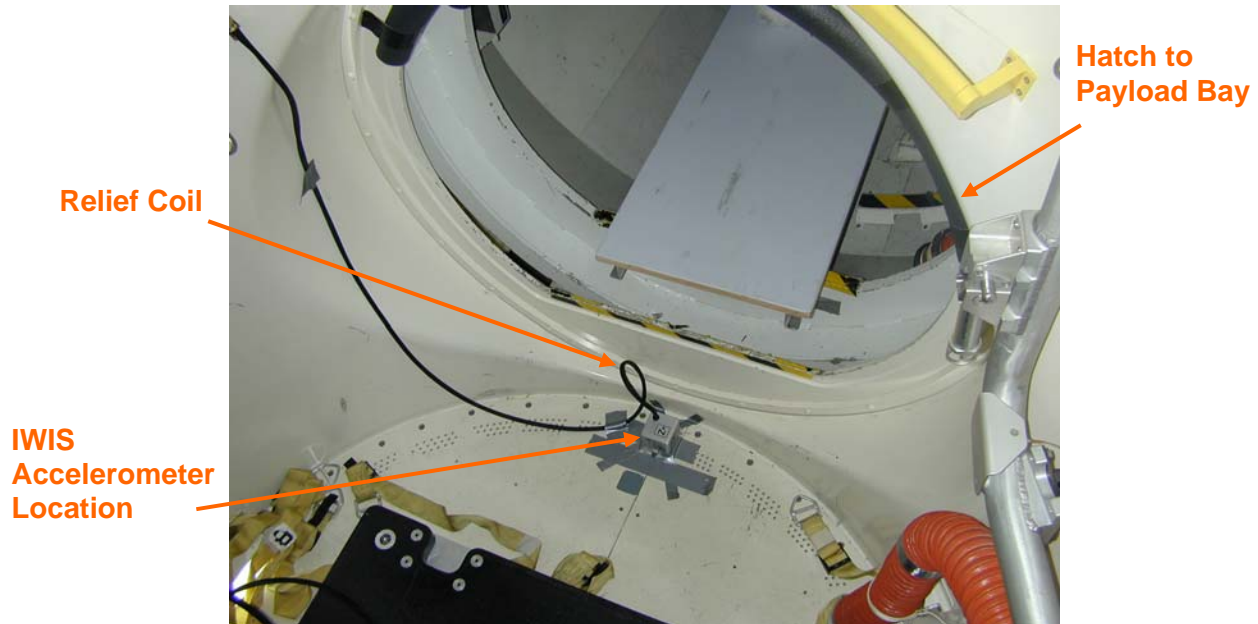

Figure 2. Accelerometer Installation Location.
- 1.2 Locate Installation Location on aft-most section (near hatch to Payload Bay) of floor of Shuttle Airlock along the centerline. Refer to Figure 2. Clean area with Dry Wipe.
- 1.3 Seat Interface Plate on installation area. Refer to Figure 2. Using Gray Tape, secure Interface Plate to floor. Ensure tape does not interfere with the three accelerometer seating mounts.
- 1.5 Using small piece of Gray Tape, secure a section of cable ~10 inches long to the floor as a relief coil. Refer to Figure 2.